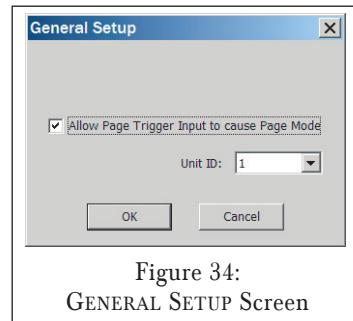

Figure 34:
4. Open the DEVICE menu and select GENERAL SETUP. The GENERAL SETUP screen (*Figure 34*) will appear.